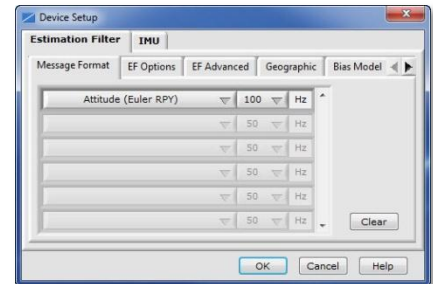

Figure 3: Device Setup window
5. Click Device and the Device Setup window appears, as shown in Figure 3.